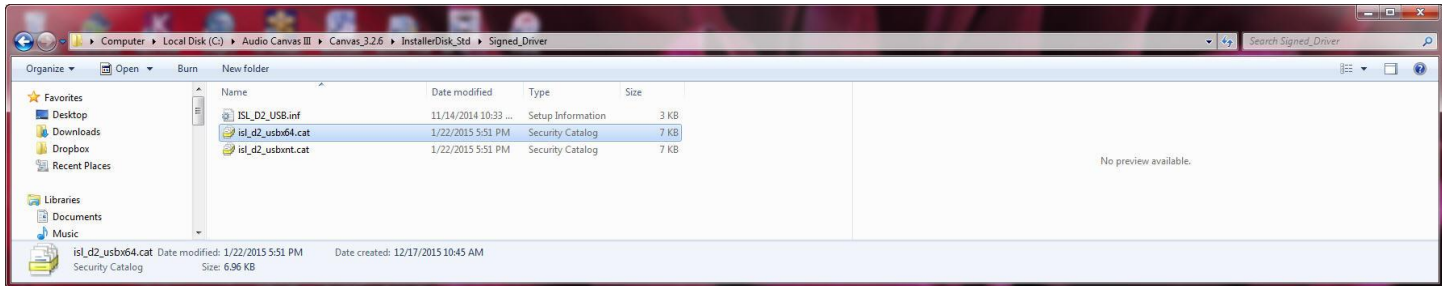

Figure B4: SCAMP7/8 (D2Audio Hardware) Driver
9. The correct Driver for the SCAMP7/8 Dongle is found in the “Signed Driver” Folder of the InstallerDisk_Std, and is named “ISL_D2_USB.inf” as shown in Figure B4
11. Navigate to the Folder location of the Driver described in Figure B4